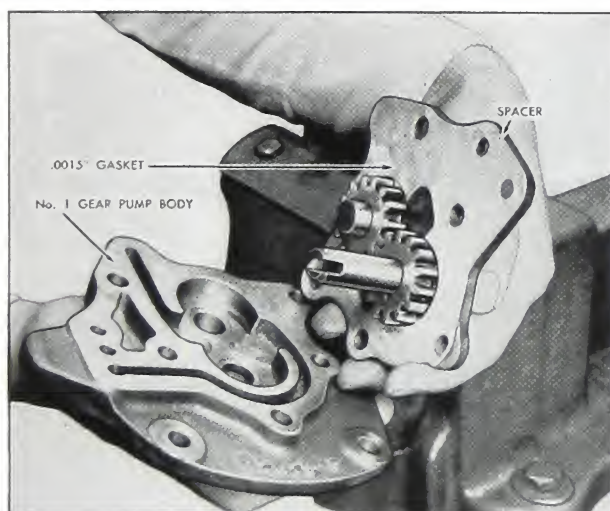

Fig. 5-88. Assembling Number 1 gears and body
2. Lubricate the gear pockets with S.A.E. 20 lubricating oil. Install the gears and spacer plate assembly to the Number 1 body. Fig. 5-88.